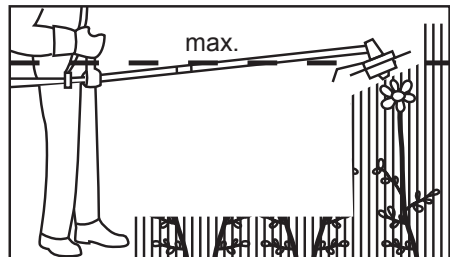

Fig. 20
4. Never hold the cutting head higher than your hip (Fig. 20), the higher you hold the cutting head will increase the risk of objects being thrown.